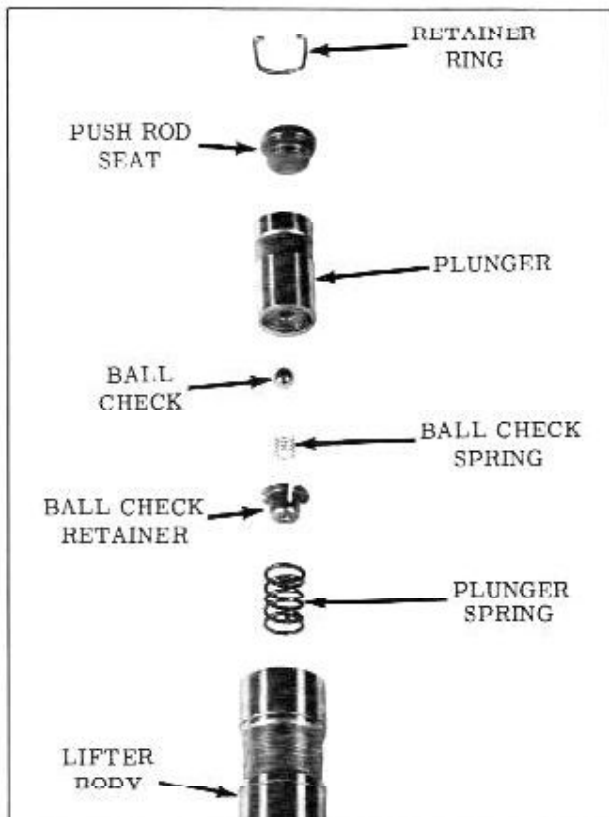

Fig. 8-13 Valve Lifter Exploded View
2. Assemble ball check and retainer into plunger. (Fig. 8-13) Make sure retainer flange is pressed tight against bottom of recess in plunger.